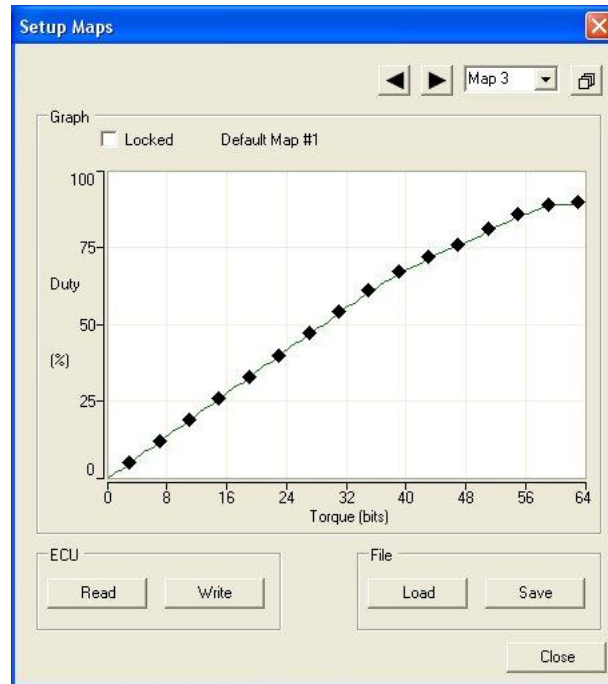

Figure 9 - Setup Maps Dialog (Map Edit)
5. When the **Locked** checkbox is not checked edit markers are displayed at 16 places along the map (Figure 9). Use the mouse to drag each of the markers until the required map shape is obtained. Note that each marker is constrained by the markers either side of it.